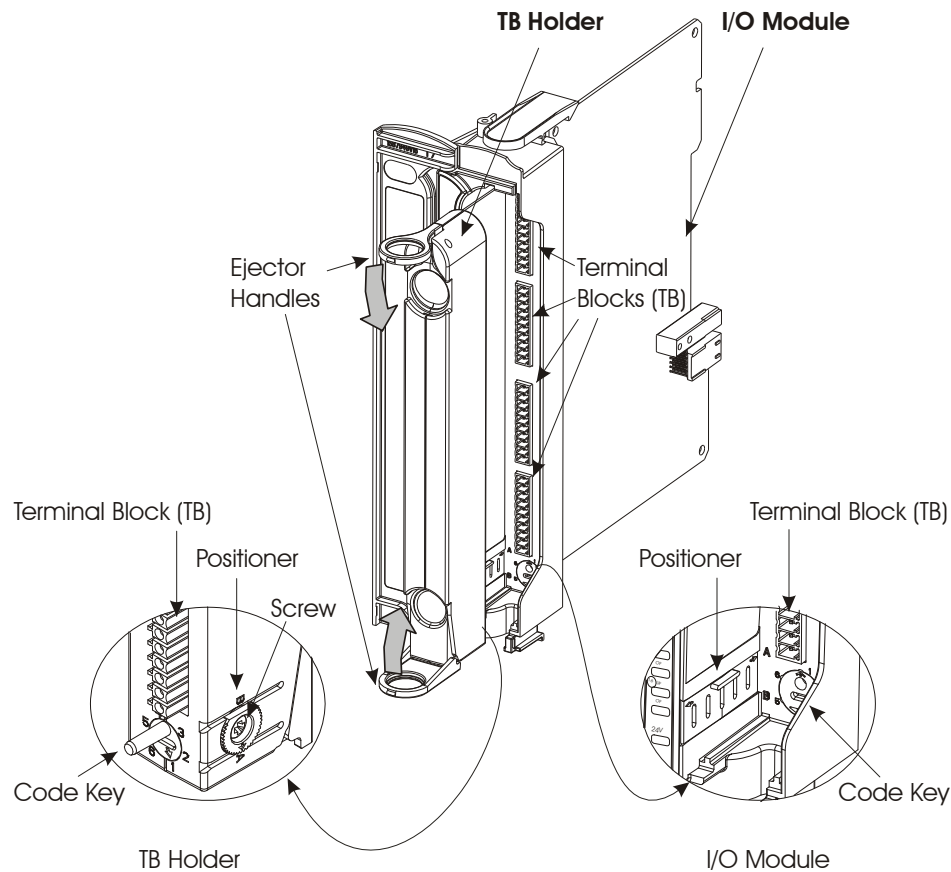

Figure 5-8 Terminal Block (TB) Holder on I/O Module – General View with Coding
- 7) Align the plastic lip with the flat edge of positioner on the TB holder and snap the TB holder into the I/O module, (see Figure 5-8), fitting the code key pin into the code key.
- 8) If the ejector handles are extended, push them inwards, against the TB holder (see Figure 5-8.)
Figure 5-8 provides a general view of the TB holder and an I/O module.